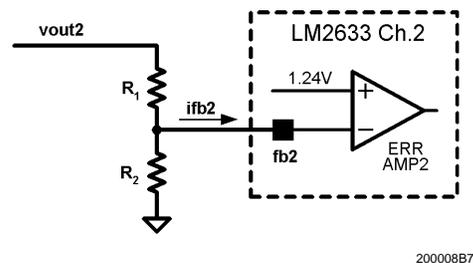

**FIGURE 16. Example Audio Susceptibility Gain**
The open-loop and closed-loop audio susceptibility of the previous example is shown in Figure 16. It can be told, both from the model and from Equation (47), that open-loop gain of audio susceptibility is just a level shift of the loop gain. Closed-loop audio susceptibility starts to depart from its open-loop counterpart when frequency drops below the cross-over frequency.